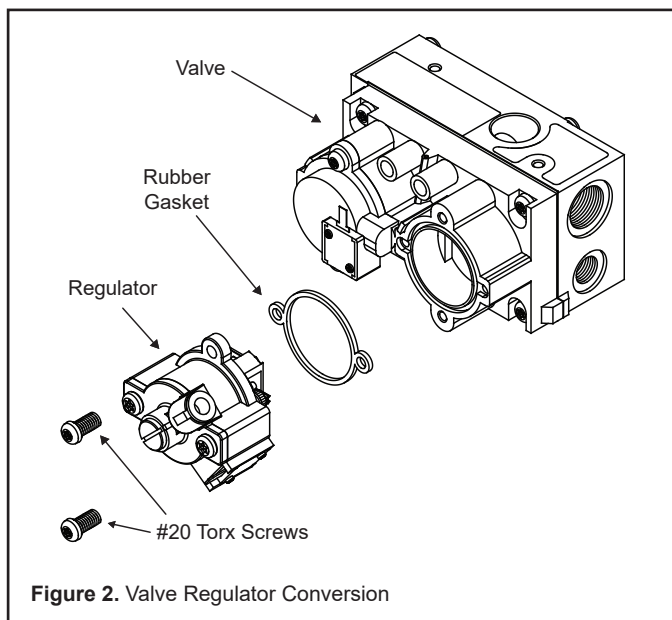

Figure 2. Valve Regulator Conversion
1. Locate the gas valve. Using a #20 tamper-proof Torx screwdriver, remove the regulator and rubber gasket on face of valve. See Figure 2. Discard both the regulator and rubber gasket.
2. Install the new regulator along with the new rubber gasket included in the conversion kit. See Figure 2.